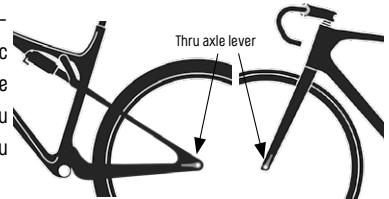

Fig. 2/30 KTM thru axle
i.e. the fork leg ("Fig. 2/ KTM thru axle" on page 30), you can change the position of the thru axle lever afterwards. To do this, loosen the 4 mm Allen screw and then move the lever to the desired position. Tighten the 4 mm Allen screw with 5 Nm torque.